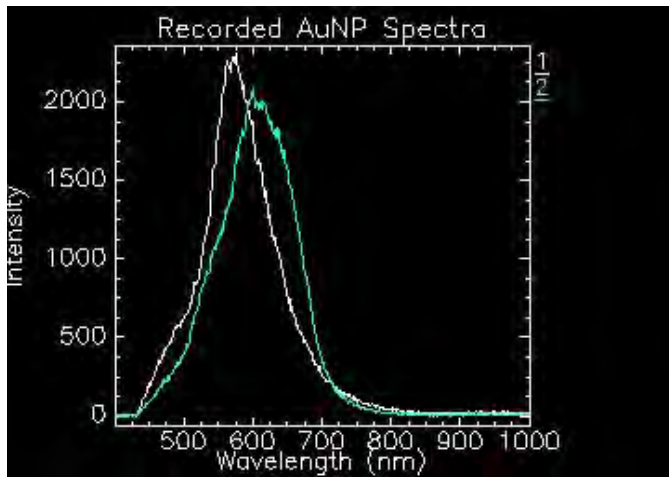

Figure 59. The uncorrected spectra of nanoparticles
4. In the assignment window, select the normalized lamp spectrum for S2 (see Figure 59 and 60).